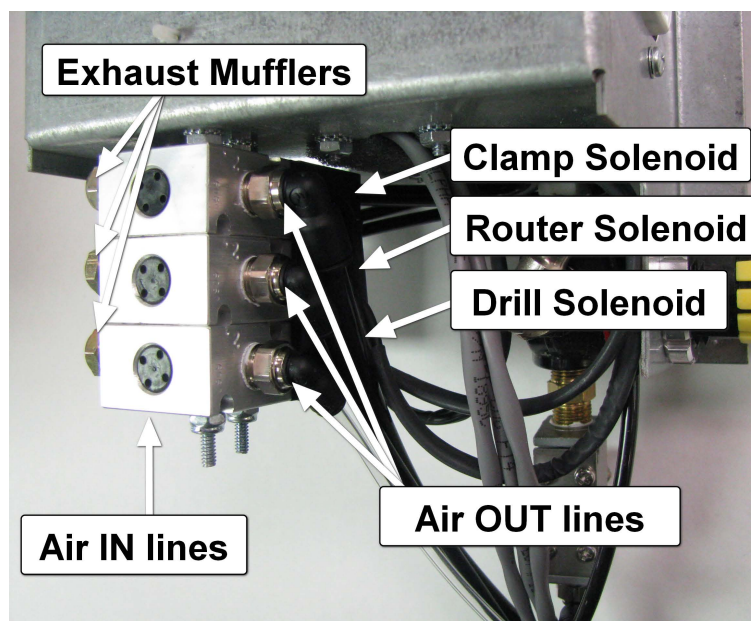

Fig 20a
4. Listen for constant hissing and feel for leaking air at the exhaust ports of the Router Solenoid and the Drill Solenoid. **See Fig 20a and 20b.**
11. Listen for constant hissing and feel for leaking air at the exhaust ports of the Router and the Drill Solenoids. **See Fig 20a.**